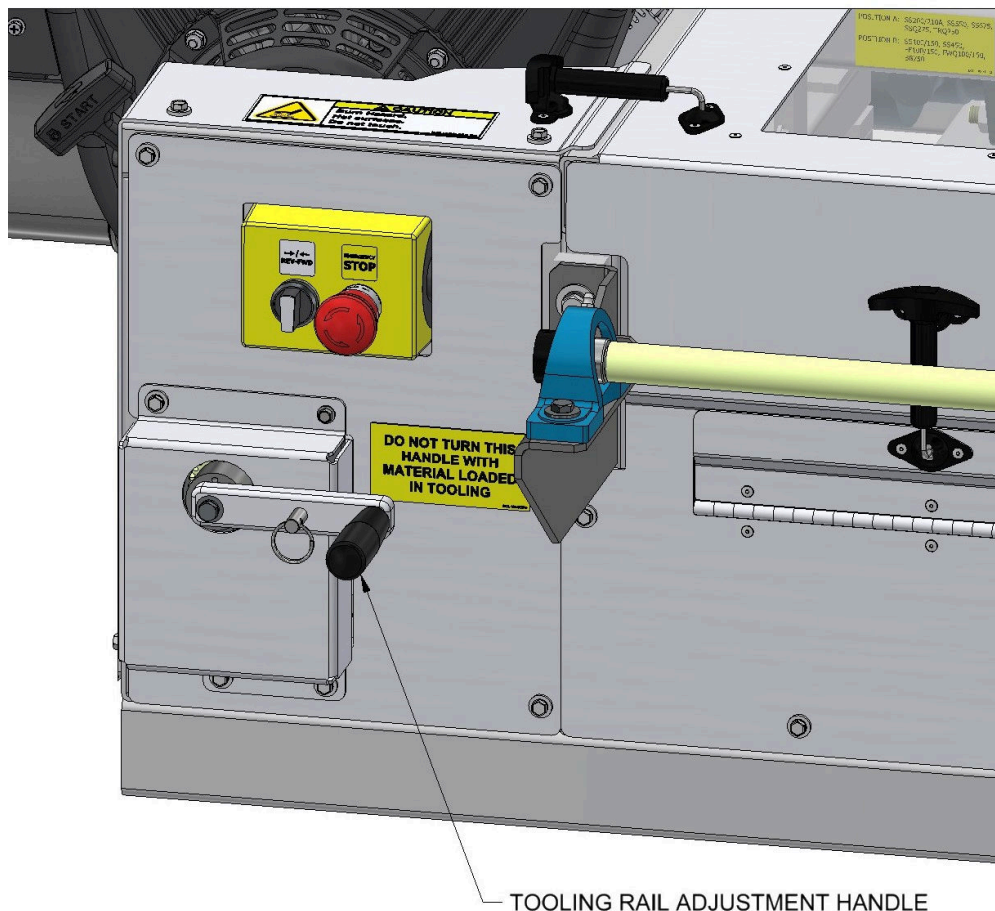
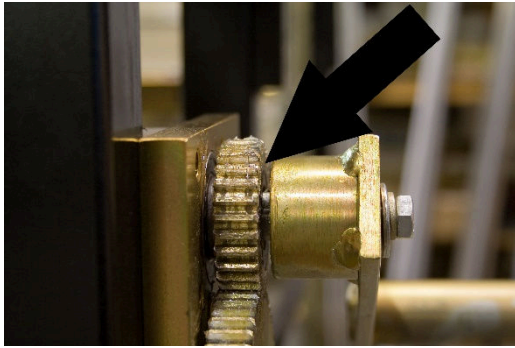
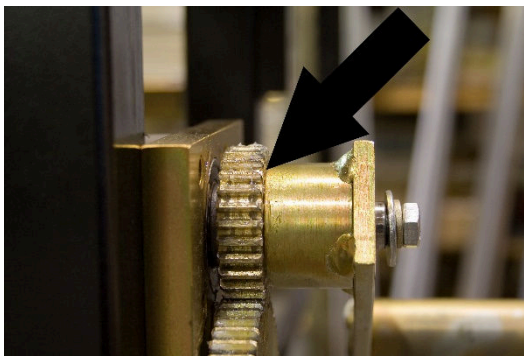

Figure 45: Tooling Rail Adjustment Handle
Figure 46: Disengaged
Figure 47: Engaged
(Figure 45 to Figure 47)
1. Using the Tooling Rail Adjustment Handle (Figure 45) align the notch on the tooling rail marker plate to the alignment notch located on the Left Entry Guide. The Tooling Rail Adjustment Handle is spring loaded to allow it to disengage from the width adjustment gear (Figure 46). Press the handle inward (Figure 47) to engage the width adjustment gear and turn the handle clockwise to move the tooling outward or counter-clockwise to move it inward. Make sure to choose the notch on the marker plate that corresponds to the desired leg configuration as noted on the decal on the marker plate.